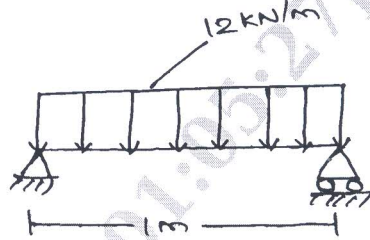

Fig Q9(a)
- 9 a. Fig Q9(a) shown a simply supported beam subjected to a uniformly distributed load, obtain the maximum deflection. Take  $E = 200\text{GPa}$  and  $I = 2 \times 10^6 \text{mm}^4$ .